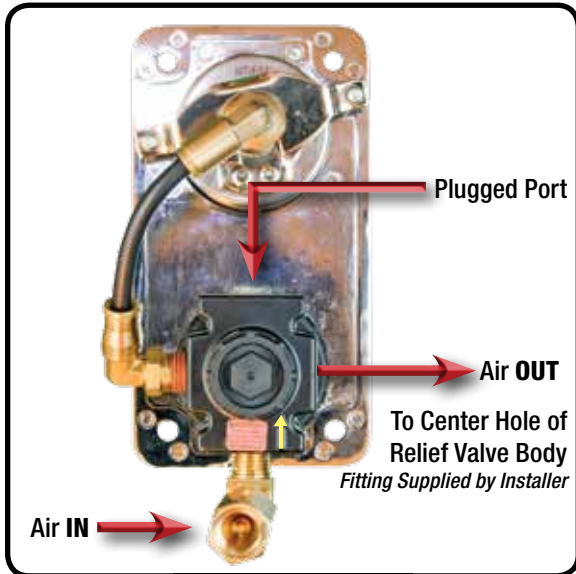
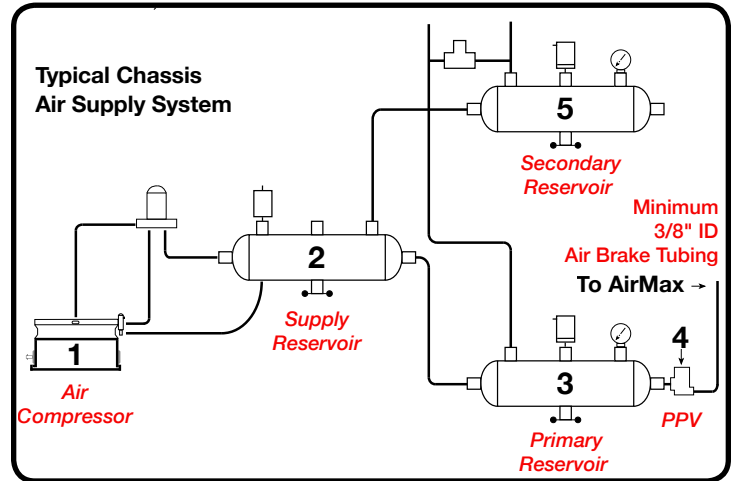

Figure 6
Figure 7
3. Next attach the ¼" push-to-connect swivel elbow provided to the back of the pressure gauge as shown in **Figure 4** BEFORE mounting the gauge in the panel. This can be seen in **Figure 6** on the next page. Then install the gauge in the panel using the bracket and screws provided.
4. Attach the fittings provided to the back of the regulator before mounting the regulator in the panel placard. The ¼" NPT x ¼" NPT elbow must be installed into the regulator port marked with the embossed arrow Air IN as shown in yellow **Figure 6**. After that elbow is installed, the supplied check valve should be connected to the other side of it with attention given to the arrows located on the side of the check valve to ensure proper direction of flow. **Note:** Be SURE the direction of the stamped arrows (<<) on the check valve are pointing INTO the regulator. Next, make sure the regulator port opposite (on top) of the Air IN port is plugged as shown in **Figure 6**. Next, attach the ¼" push-to-connect swivel elbow provided to the port shown for connecting an air line to the pressure gauge. Finally insert a fitting of your choice (not provided) to the Air OUT port to connect a ¼" air-brake line over to the center hole on the relief valve cover. Now you can install the regulator into the panel placard from the back and attach the black panel hex nut to secure. Ensure that the round hole (circled in yellow) shown in **Figure 5a** located just behind the adjustment knob is pointing down. **Note:** You will have to pull the regulator knob off (Pull the knob shown in the left side of **Figure 5** straight out) before it will fit through the panel placard. Reattach the knob by pressing firmly and place the yellow (PULL TO UNLOCK) adhesive decal into the center of the regulator knob.
5. Attach the ¼" hose provided between the push-to-connect fittings on the gauge and regulator as shown in **Figure 6** on next page.
7. Connect another ¼" air line from a pressure protection valve (PPV) on one of the air-brake tanks to the Air-IN (Check valve) on the back of the regulator as shown in Figure 6. The schematic for a typical air-brake system is shown in Figure 7. If you do not have any other air accessories on the truck and need to purchase a pressure protection valve, you can order one through Trident as Part # 30.053.0. See item 4 in Figure 7 for correct positioning of the PPV.